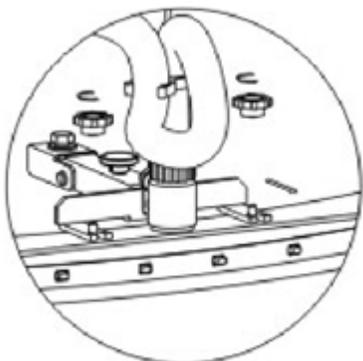

Figure 12
- D. Check the wearing condition of the scraper edge. If the wearing condition is so serious that the adjustment will not work, turn over the rubber blade and use another side of it. (see figure 12) If another side is also worn out, it has to be replaced by new rubber blade.